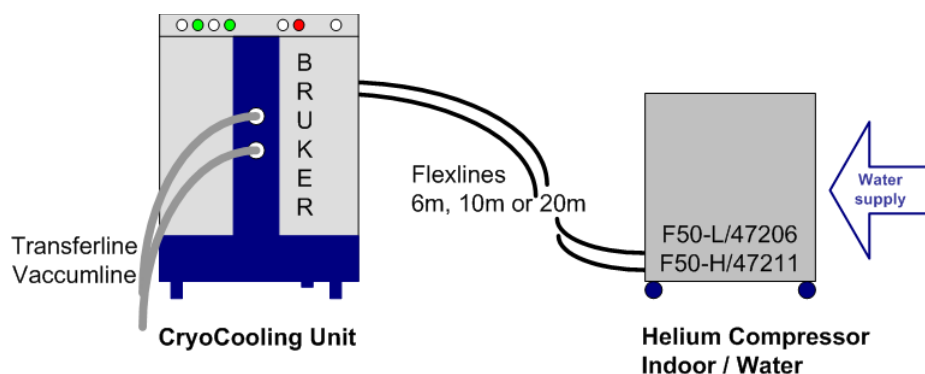

Figure 7.4: Principal setup with an indoor water cooled compressor.
Step 5 in the Site Planning the location of the Helium compressor of the CryoCooling system has to be determined. Since the Helium Compressor generates a considerable amount of heat (7.5 kW average, 8.5 kW peak), it must be cooled to prevent overheating. BRUKER offers water cooled Helium compressors as shown in Figure 7.4. Furthermore, depending on the country, the compressors are available in two different versions of voltage supply ranges. For the US / CA and JP Helium compressors with 3 x 200 V main power supply are the standard while for EU and CH the He Compressor main power supply is specified with 3 x 400V (for further details see Table 4.5 on page 22).